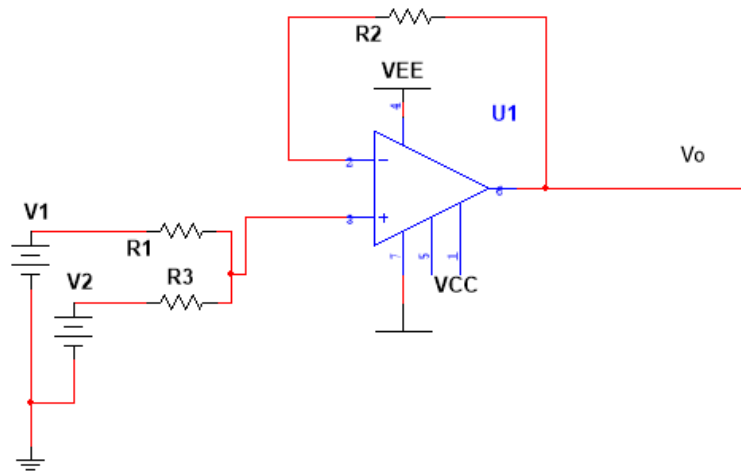

Fig 2.3: Op-amp as Inverting DC adder with scaling
2. The circuit is set-up as shown in figure 2.3. The supply voltage $\pm V_{CC}$ is set at $\pm 12V$.